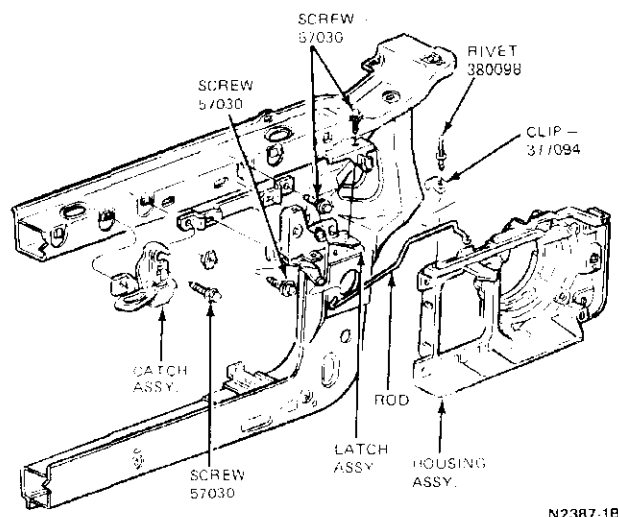

FIG. 7 Hood Latch—Fairmont
1. Loosen the hood latch attaching bolts until they are just loose enough to move the latch (Figs. 7 through 13).